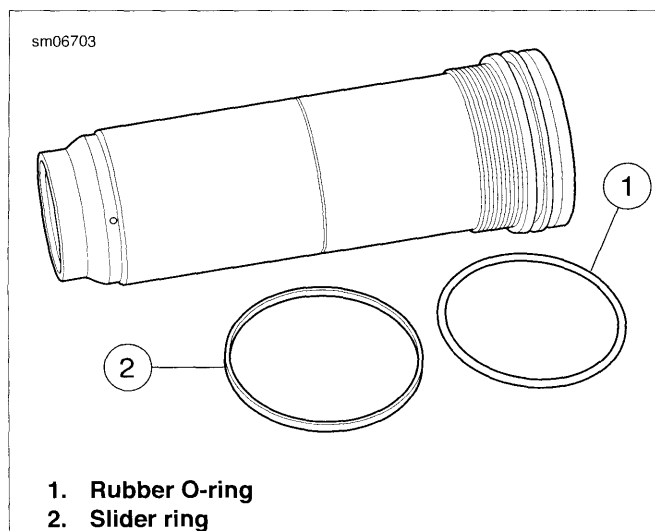

Figure 2-184. Rod Guide Case and O-Rings
3. See Figure 2-184. Replace the rod guide case O-ring (1) and the slider ring (2).